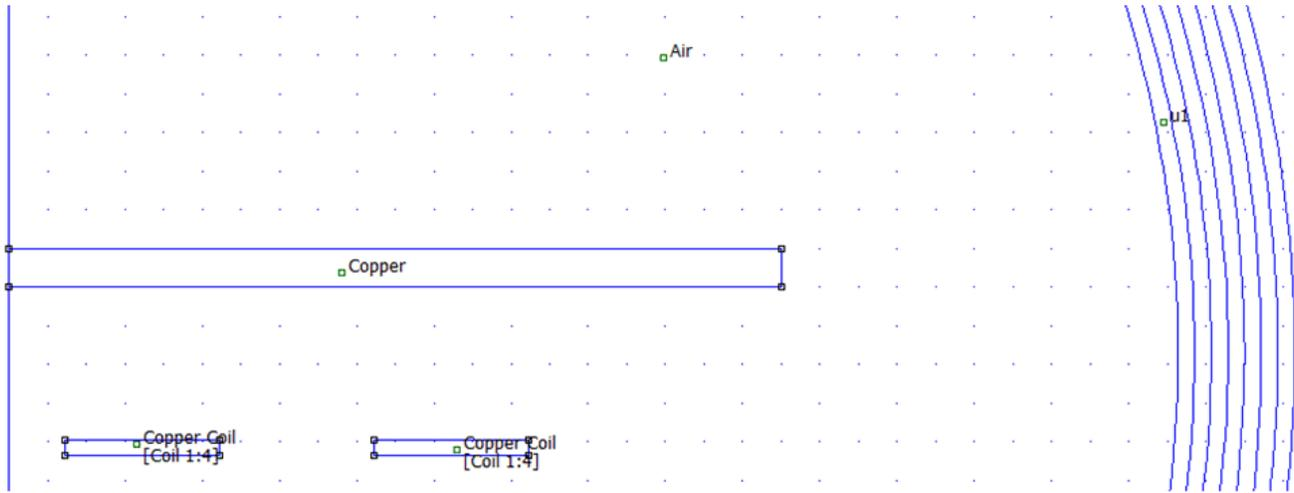

Figure 2-17. Axisymmetric Problem Workspace With Defined Circuits
- g. Repeat this process for all boundaries in the coil. The workspace should now look similar to Figure 2-17: